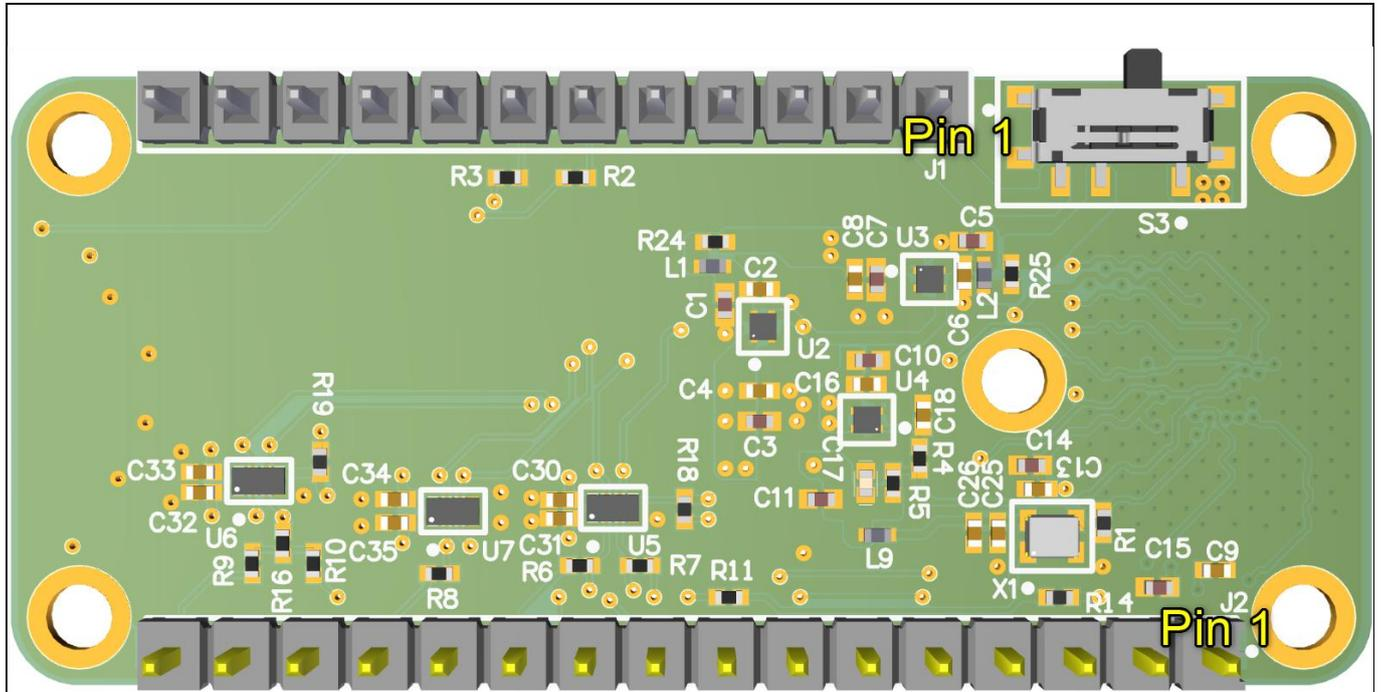

Figure 13: Adafruit headers and test points on the back view of the XENSIV™ BGT60UTR11AIP radar wing
**Figure 12** and **Figure 13** describe the components mounted on the XENSIV™ BGT60UTR11AIP radar wing.